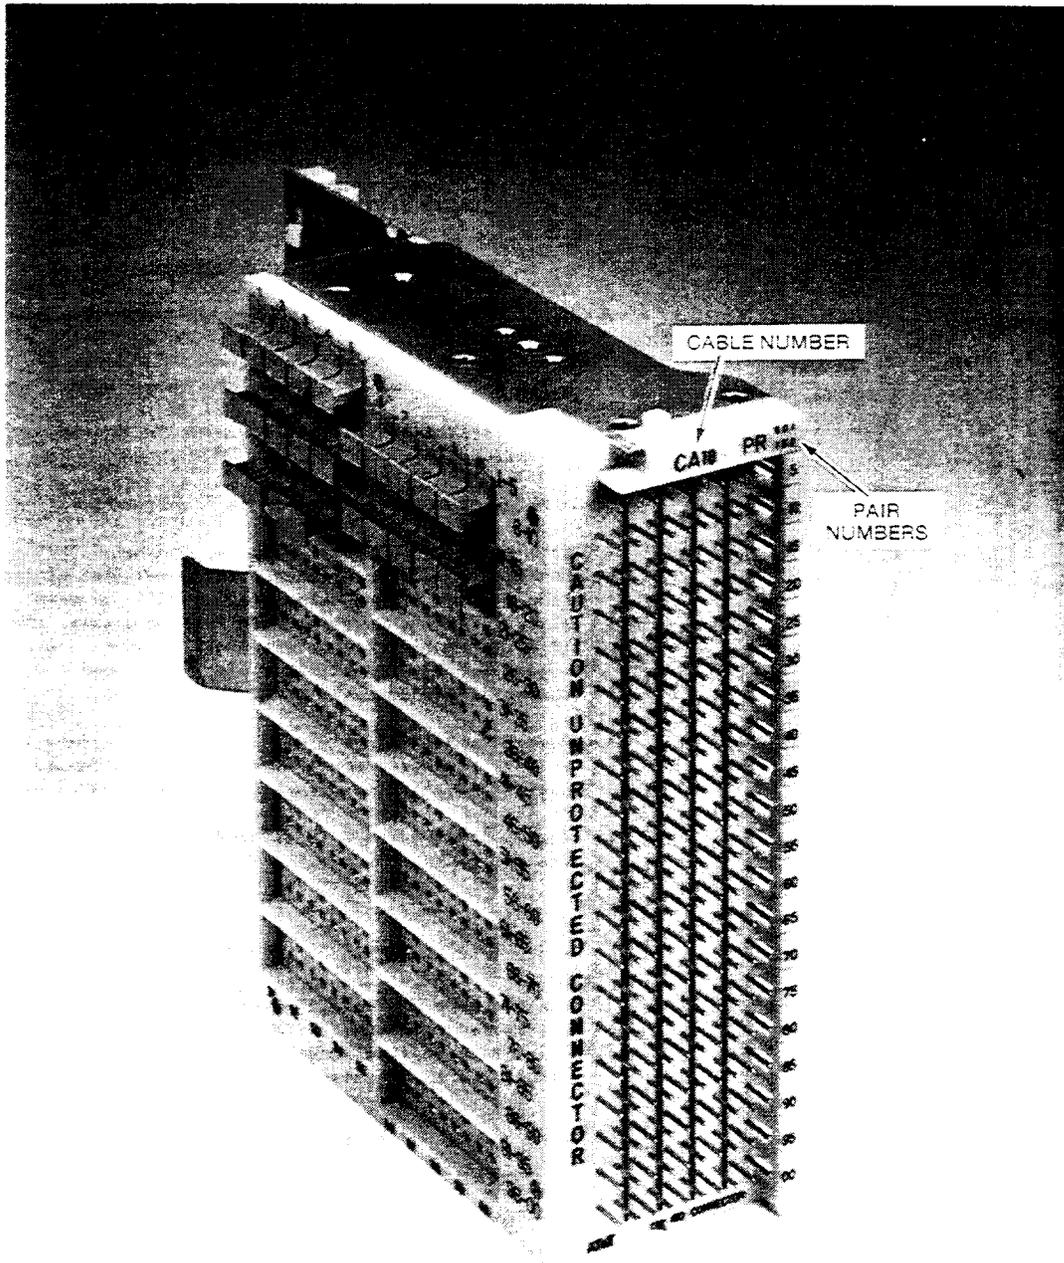

Figure 10. Marking Cable and Pair Numbers
3.10 Use the B or W transfer stenciling kit, as described in AT&T 081-860-105, for marking the cable and pair numbers. AT&T 636-200-011 covers the marking of main frames. Mark the 410- and 410M-type connectors in a manner similar to that shown in Figure 10.